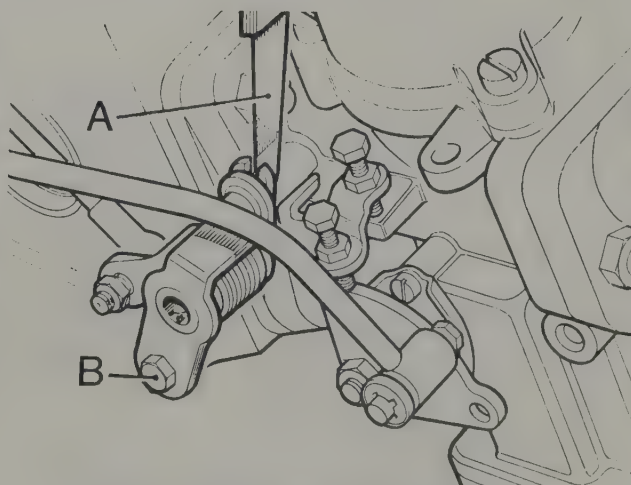

Fig. 3.21. Locking up after idle adjustments
- 6 Place an 0.006 in. (0.15 mm) feeler gauge between the right leg of the fork of the adjusting lever and the pin of the throttle lever of the right-hand carburettor (Fig.3.21).